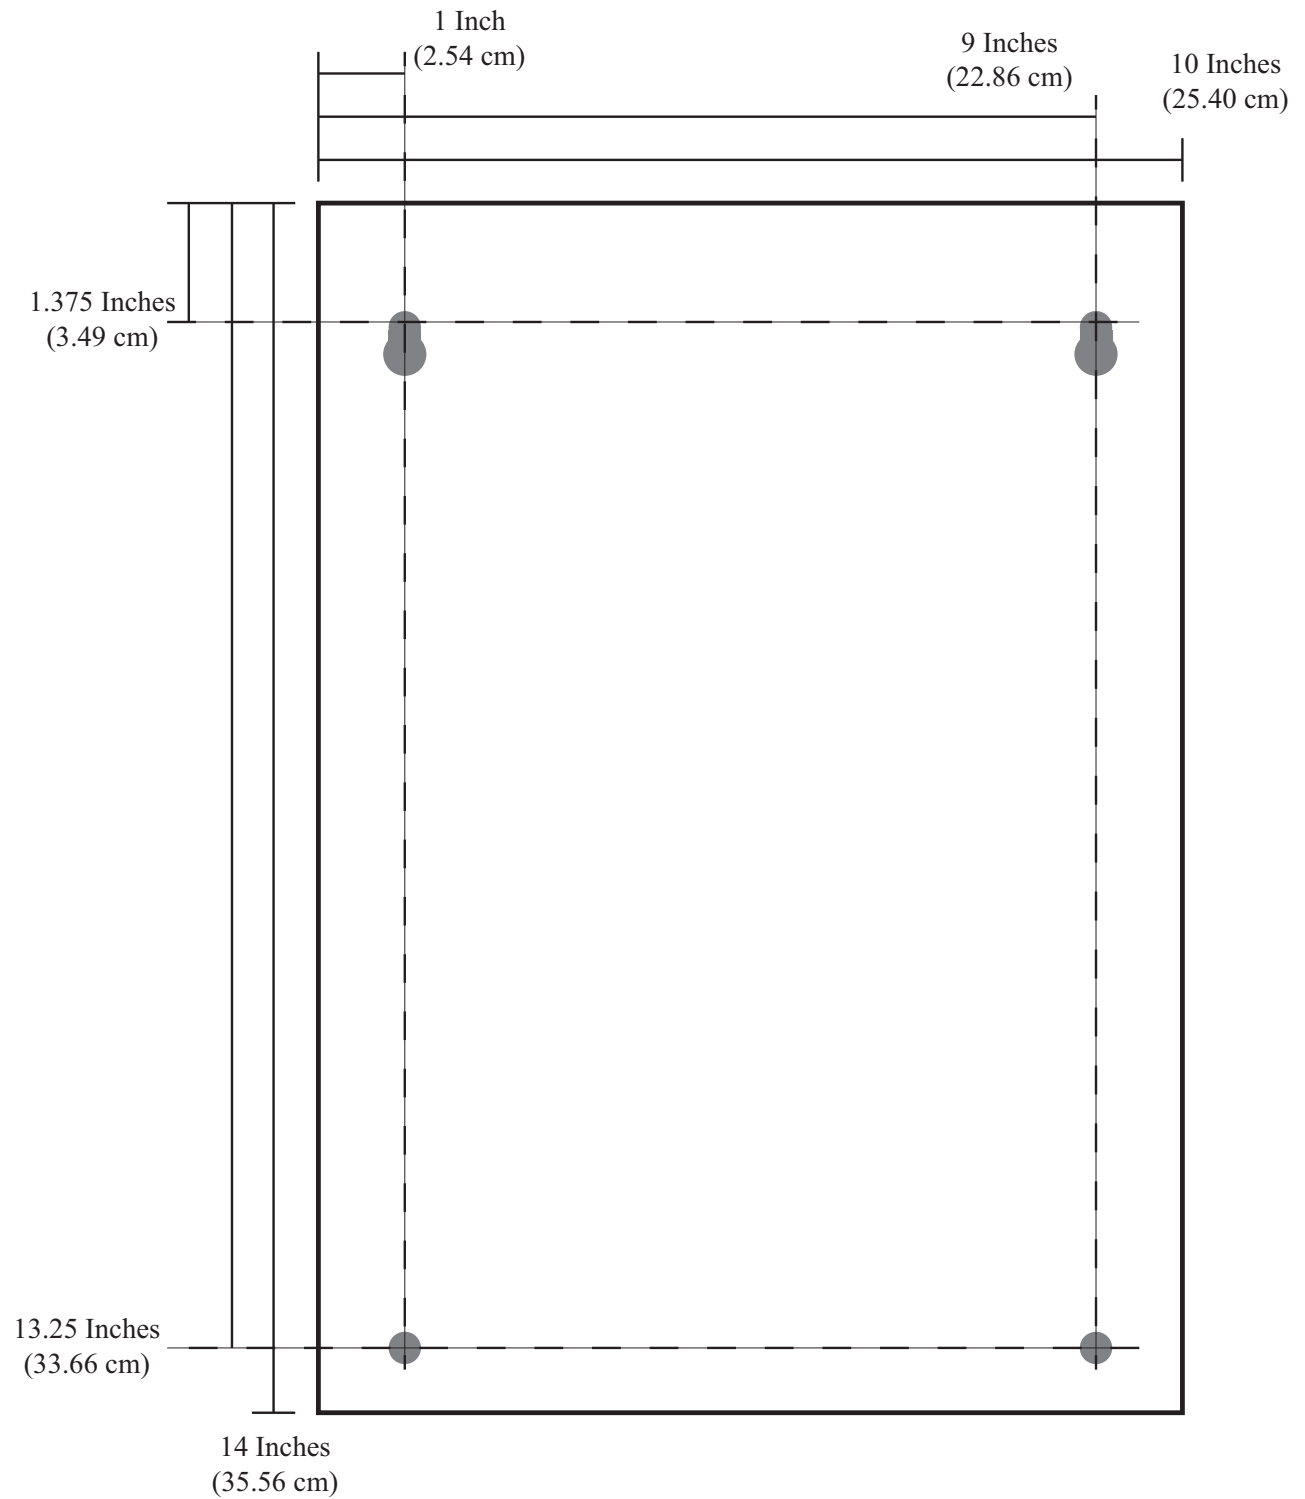

Figure 1: NPL II-48 Cabinet and Auxiliary Relay Cabinet Mounting Hole Locations
1. Prepare the mounting surface to receive four #10 1-1/2 inch wood screws, or four 3/16 inch bolts or drive studs (see Figure 1 on page 2).